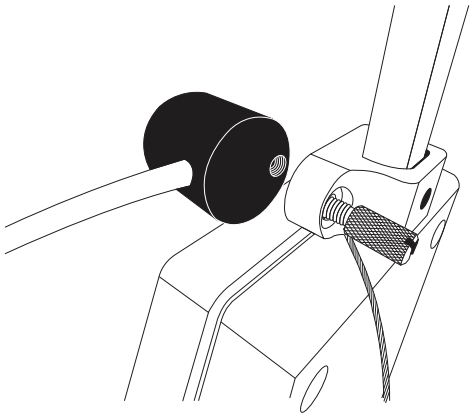

Figure 29 Level the probe
3. Insert the bolt through the hole in the LP-80 from back to front and screw into the external PAR sensor until hand-tight (Figure 29).